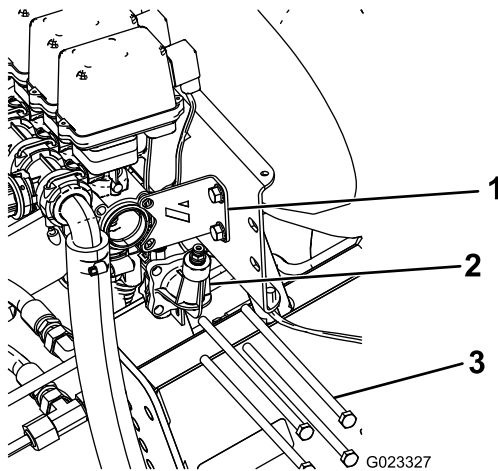

Figure 3
1. Remove the 4 threaded rods securing the pressure-gauge port to the boom valves and discard them (Figure 3). Retain the flat washers and nuts.
2. Remove and retain the 2 bolts and nuts securing the stabilizing bracket to the valve assembly (Figure 3).